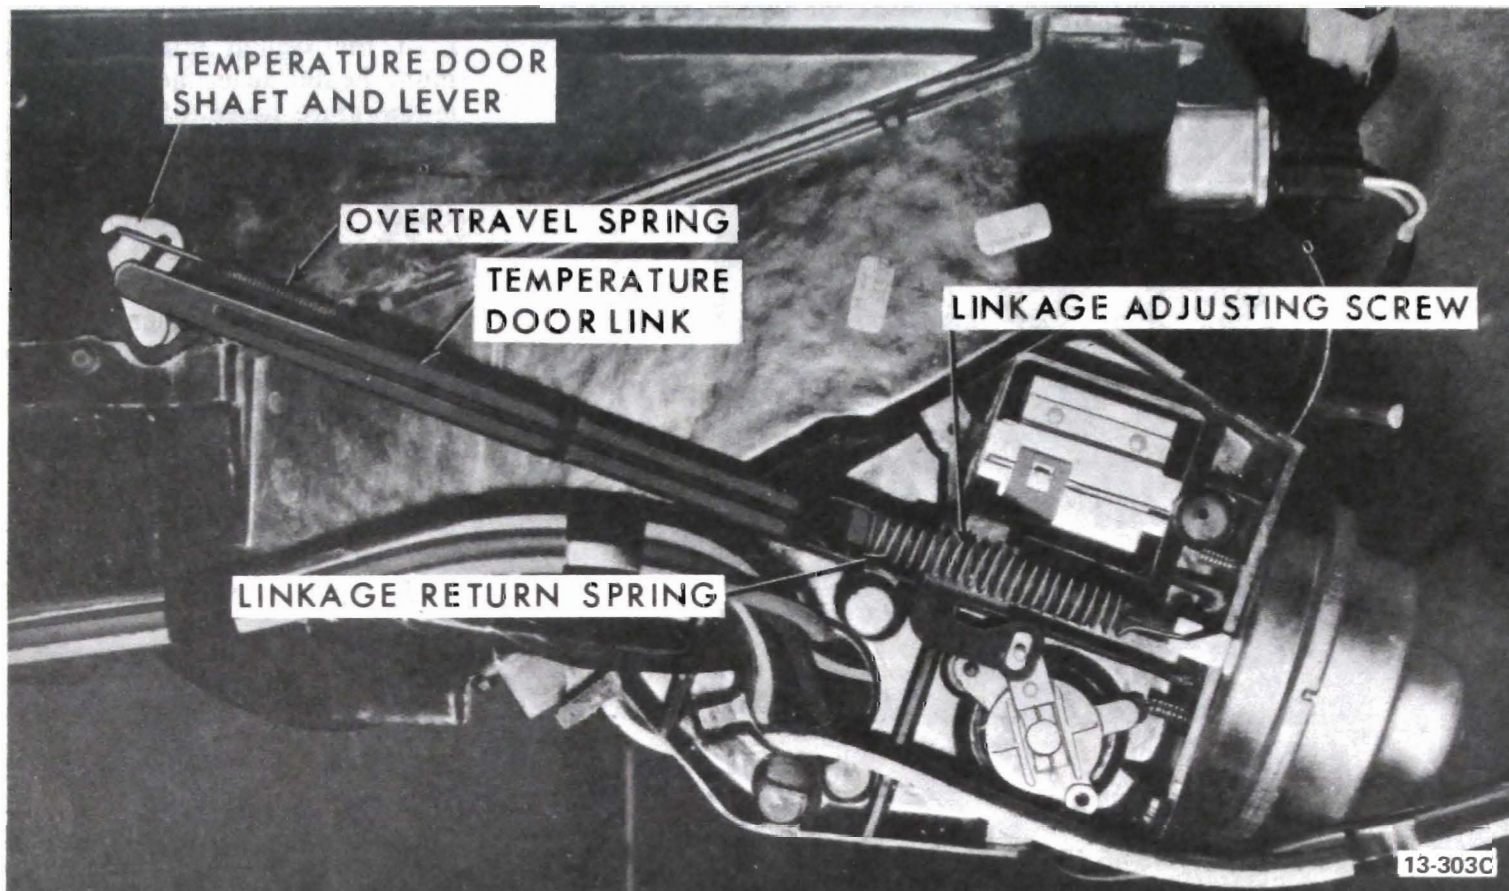
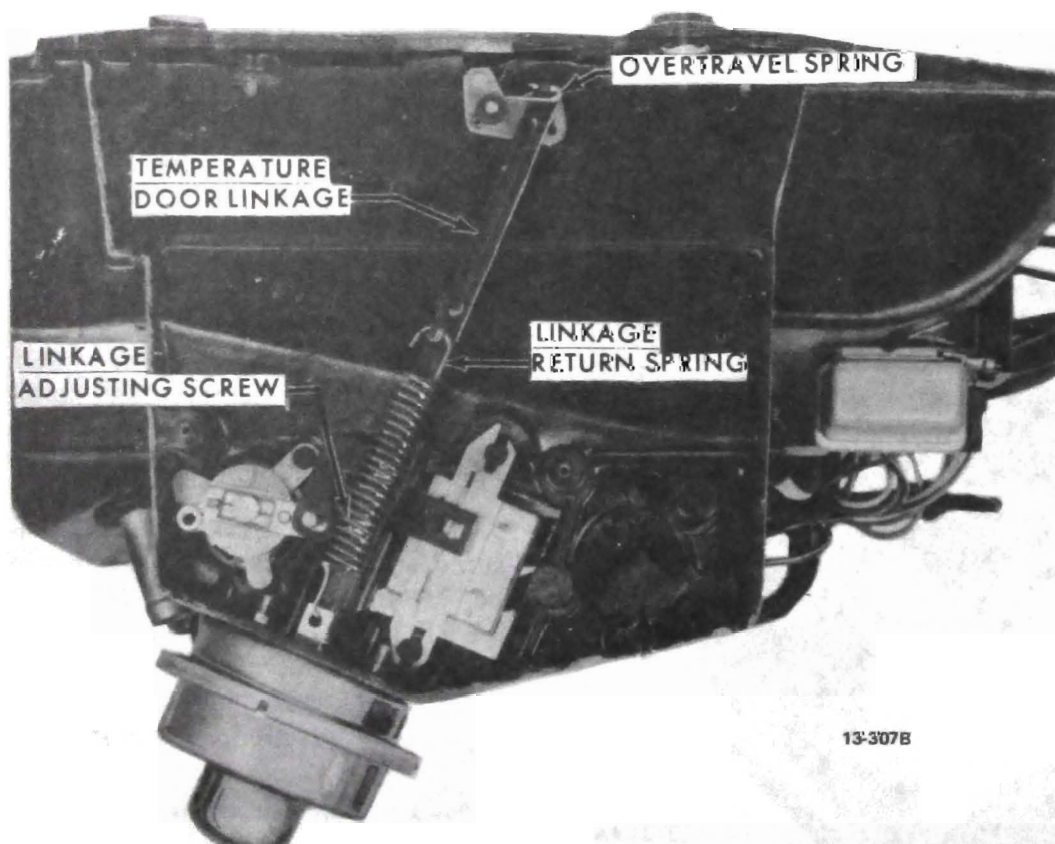

Figure 13-206 - 45-46-48000 Series PVA Linkage
Figure 13-207 - 49000 Series PVA Linkage
4. Disconnect linkage return spring. See Figure 13-206 for 45-46-48000 Series. See Figure 13-207 for 49000 Series.
5. Loosen temperature door linkage adjusting screw. See Figure 13-206 for 45-46-48000 Series. See Figure 13-207 for 49000 Series.